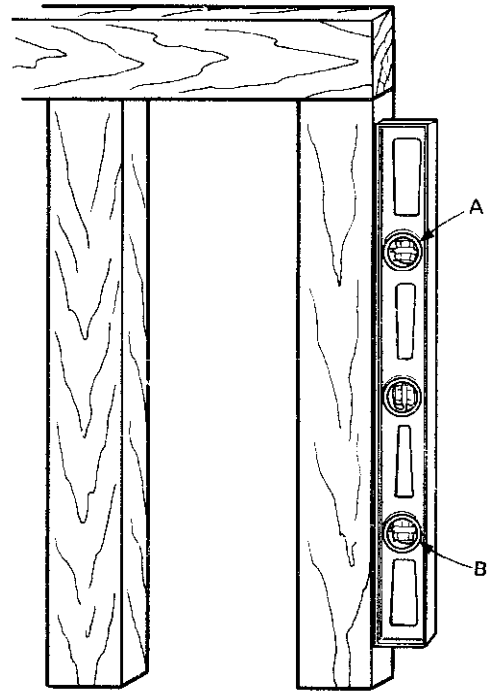

Fig. 5-7 Testing a vertical plane
1. Place the level against one side of the surface to be tested as shown in figure 5-7.